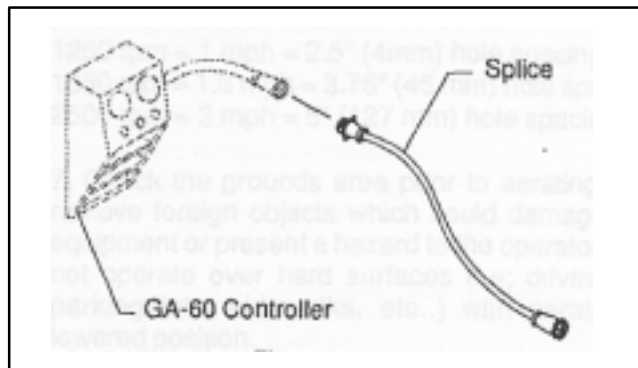

Figure 3
CONNECT GA-60 AERATOR TO WORKMAN (Fig. 3 & 4)
3. Connect (92-4543) splicer harness from brake controller receptacle on L.H. frame of Workman to GA-60 controller. Route and retain harness out of the way. (See Fig. 3)